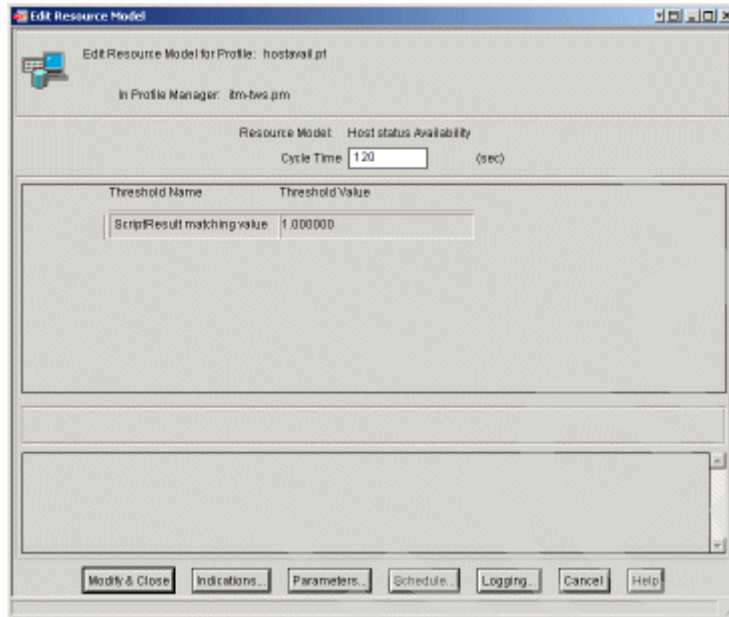

Figure 9-71 Edit Resource Model window
4. Double-click the **Host status Availability** resource model. The Edit Resource Model window displays as shown in Figure 9-71 on page 488.